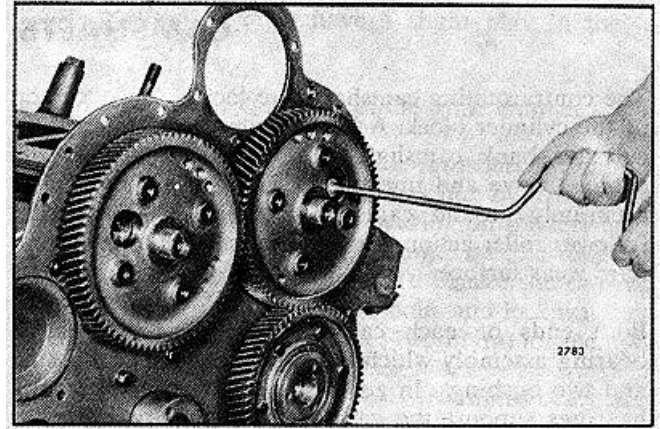

FIG.4 - Removing or Installing Camshaft End Bearing Retaining Bolts
15. Rotate the camshaft gears as required to reveal the camshaft end bearing retaining bolts. Then remove the bolts (Fig. 4).